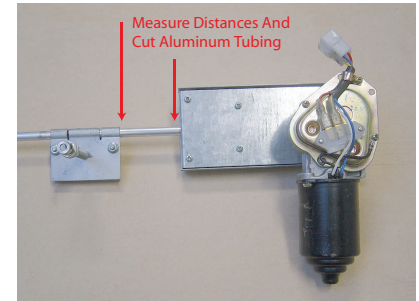

figure 4
e. Measure distance between the two wiper shafts. Cut aluminum tube to correct distance. Do the same with the space between wiper motor and closest wiper shaft. (fig. 4) Once aluminum is cut and installed, all pieces should fit together like figure 6. NOTE: Be sure the tubes do not touch the wiper shaft gear when installing.